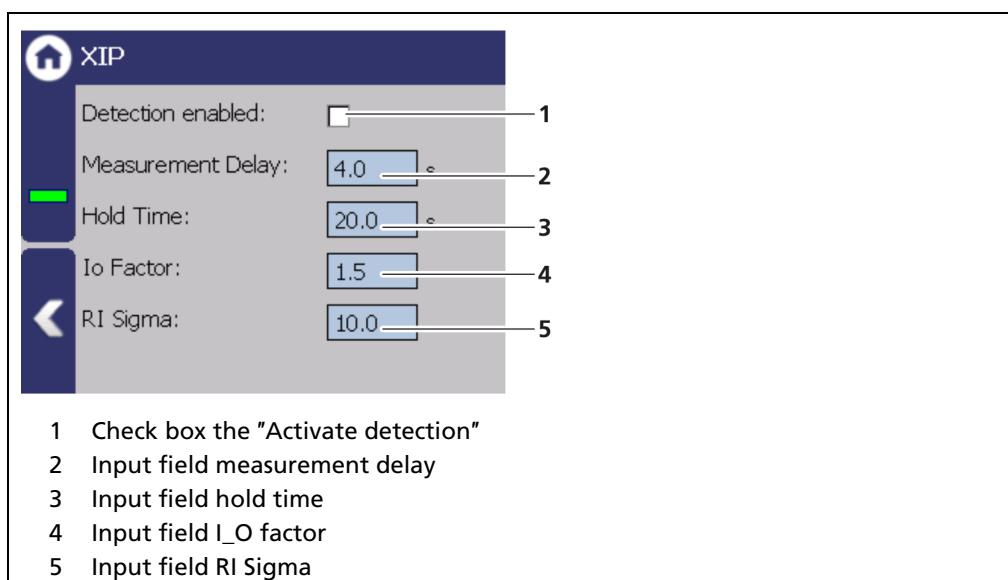

Fig. 106 Signal Condition (Radiation Interference)
If detection (Fig. 106, item 1) is activated, the last valid measured value is frozen.